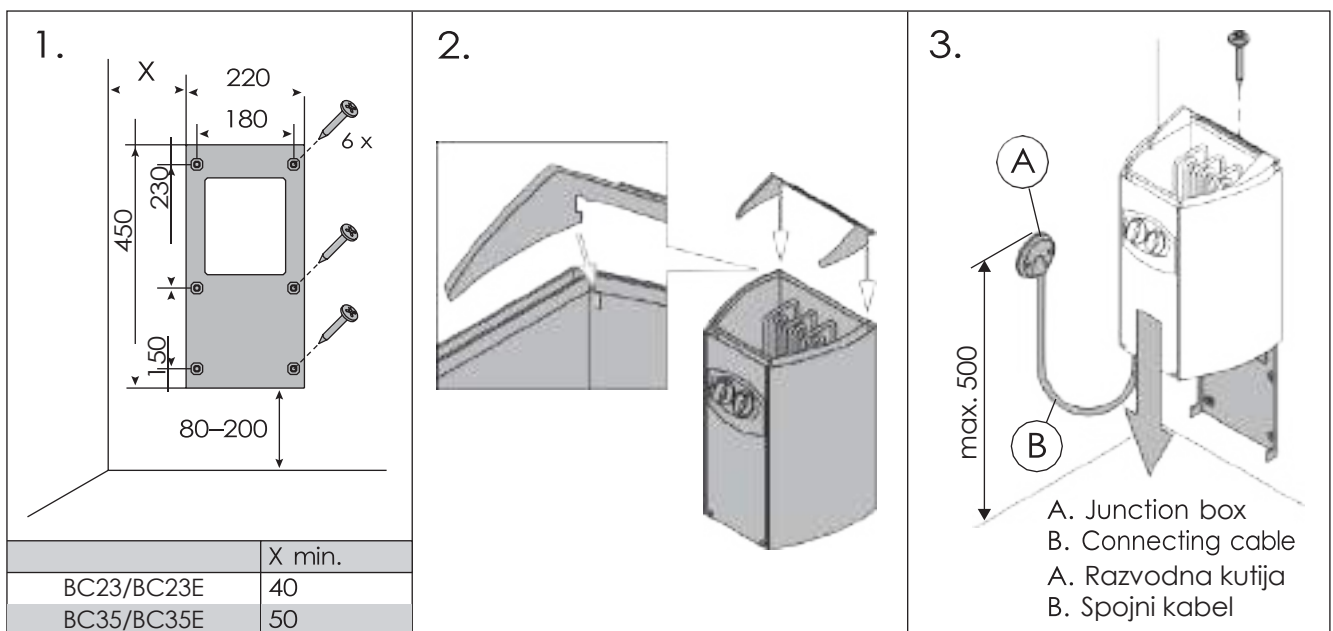

Figure 7. Fastening the heater on a wall (all dimensions in millimeters)
| Width/širina 280 mmDepth/dubina• BC 295 mm• BC-E 270 mmHeight/visina 505 mmWeight/težina 7 kgStones/kamenjemax. 12 kg |                           | ▷ 2.3.                 |                        |                  | See fig. 7. The measurements apply to the connecting cable only!Vidi foto 7. Mjere se odnose isključivo na priključni kabel! |        |   |        |                  |
See figure 7.
- The heater is semi-stationarily connected to the junction box (figure 7: A) on the sauna wall. The junction box must be splash-proof, and its maximum height from the floor must not exceed 500 mm.
- The connecting cable (figure 7: B) must be of rubber cable type H07RN-F or its equivalent. **NotE! Due to thermal embrittlement, the use of PVC-insulated wire as the connecting cable of the heater is forbidden.**